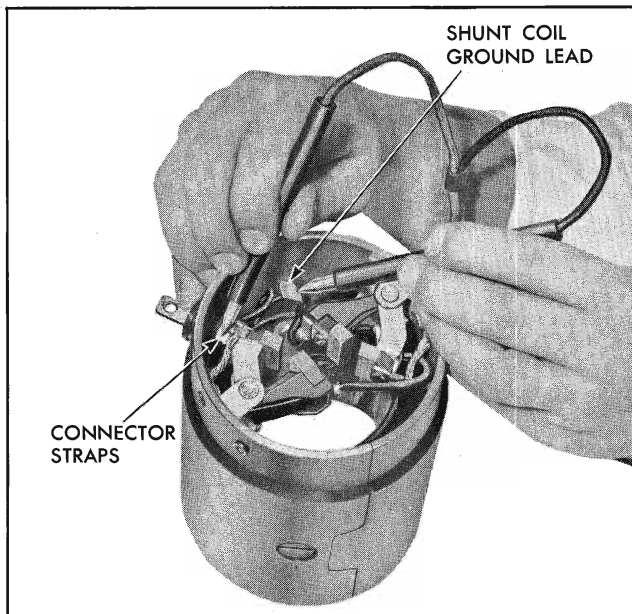

Fig. 11-43 Testing Shunt Coil for Open Circuit
e. Using a 110-volt test lamp, place one lead on each end of the shunt coil or coils (Fig. 11-43). Disconnect the shunt coil grounds before this check is made. If the lamp does not light, the shunt coil is open and will require replacement.